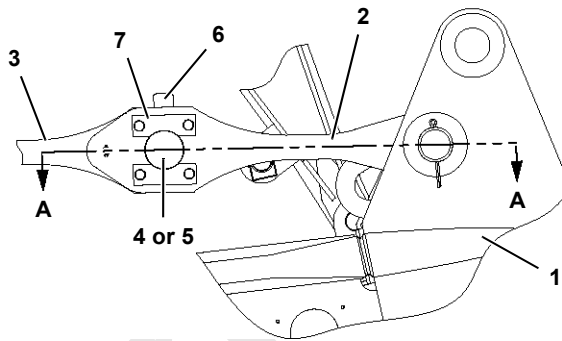

FIGURE 4-36
If desired for duty-cycle operation only, load pins (4, Figure 4-36) in boom top (1) can be replaced with standard pins (5).